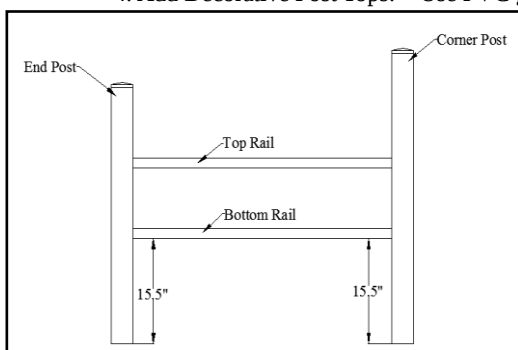

Fig.1
1. Insert a bottom rail (holes on one side) into the bottom hole in one end post. Make sure the holes in the rail are facing the other hole in the end post. **Note:** The hole which measures 15.5" from the end of the post is the bottom hole. Insert one of the top rails (holes on both sides) into the second hole in the end post. (Fig1)